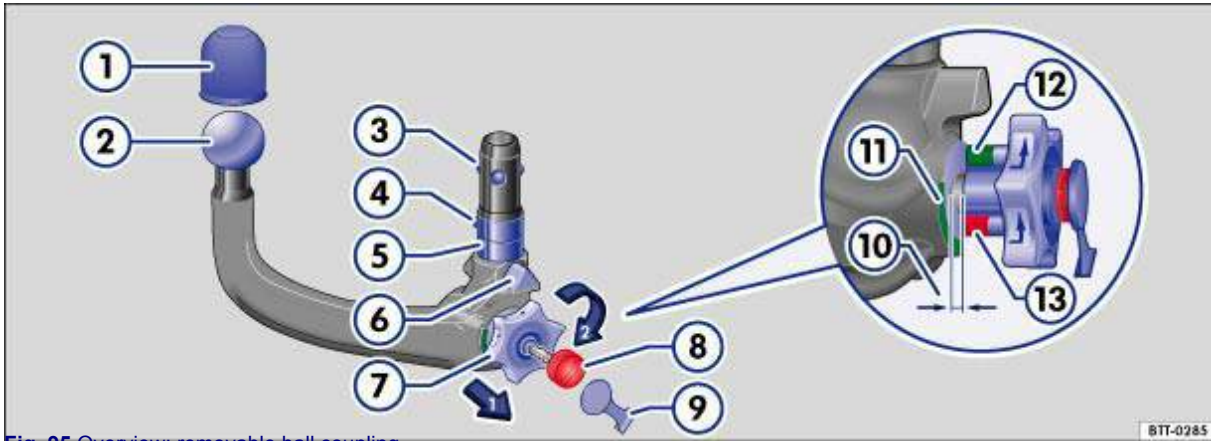

Fig. 95 Overview: removable ball coupling
Key to → Fig. 95:
- Check to ensure that the mounting, handwheel → *Fig. 95* ⑦, shank ⑤ and retaining balls ③ of the ball coupling are all clean and not damaged → . Clean as necessary.
- Take the ball coupling ② in your left hand.
- Remove the cover → *Fig. 95* ⑨ from the lock and insert the key ⑧ into the lock.
- Use your right hand to pull out the handwheel ⑦ in the direction of arrow 1 and keep it in this position → .
- Turn the handwheel ⑦ in the direction of arrow 2 until it engages. The ball coupling is now in the ready position. The red marking ③ on the handwheel must point towards the green marking ⑪ on the ball coupling. The handwheel is clearly visible in front of the ball coupling. The distance between the two is approximately 4 mm ⑩.
- Check to see whether all retaining balls ③ can be pressed fully into the ball coupling mount ⑥.
- Guide the pre-tensioned ball coupling ② into the mounting pipe from below.
- Push the ball coupling firmly upwards until it engages. Both of the centring devices → *Fig. 95* ⑥ must engage in the insertion point on the vehicle.
- The handwheel ⑦ has now returned to its original position. There is no longer a gap between the handwheel and the ball coupling.
- Turn the key ⑧ anticlockwise in the handwheel and remove it.
- If the setting is correct, you will not be able to turn the handwheel ⑦ or pull it out.
- Put the cover ⑨ over the lock and place the key in the vehicle toolkit.
- The green marking → *Fig. 95* ⑩ on the handwheel must point towards the green marking ⑪ on the ball coupling.
- The handwheel ⑦ must rest on the ball coupling and there may be no gap between them.
- Shake the ball coupling ② or pull it down with some force. It must sit firmly in the mounting → .
- If the smallest diameter on the ball coupling → Fig. 95 ② is smaller than 49 mm, do not use the towing bracket.
- Remove the cover → Fig. 95 ② from the lock on the handwheel.
- Insert the key ③ into the lock and turn it clockwise.
- Hold the ball coupling ② tightly in your left hand → .
- Use your right hand to pull out the handwheel ⑦ in the direction of arrow 1 and keep it in this position.
- Turn the handwheel ⑦ in the direction of arrow 2 until it engages.
- Keep the handwheel ⑦ in this position and guide the ball coupling downwards out of the mounting. The ball coupling is now in the ready position.
- Let go of the handwheel ⑦ and stow the pre-tensioned ball coupling safely with the vehicle toolkit.